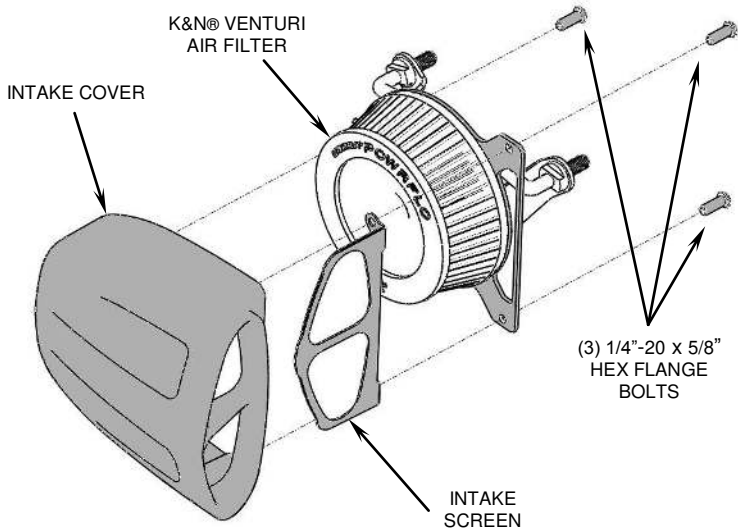

FIGURE 3
9. Place the intake cover over the air filter and align threaded bosses with the mounting plate holes. Insert the (3) supplied 1/4"-20 x 5/8" hex flange bolts through the mounting plate, intake screen and into the intake cover then tighten. See Figure 3.